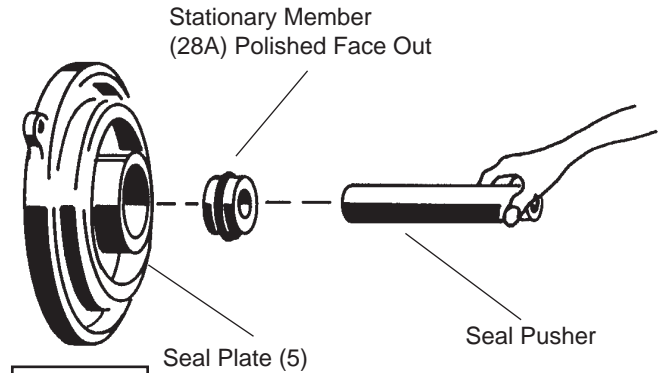
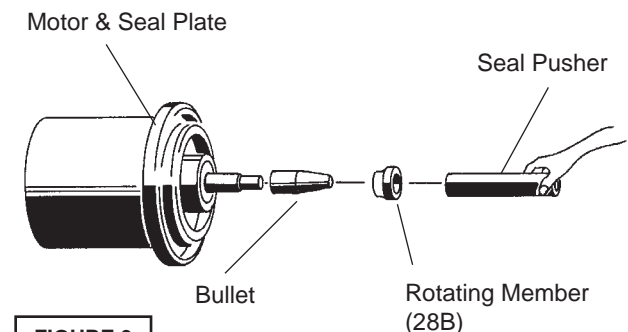

FIGURE 8
FIGURE 9
Clean and oil seal cavity in seal plate (5). Make sure the stationary member is in straight. Slide a bullet (see parts list - seal tool kit) over motor shaft. Lightly oil (**DO NOT use grease**) shaft, bullet and inner surface of bellows on rotating member (28b) see Figure 9. With lapped surface of rotating member (28b) facing inward toward stationary member, slide rotating member over bullet and onto shaft, using seal pusher, until lapped faces of (28a) and (28b) are together (see Figure 8).